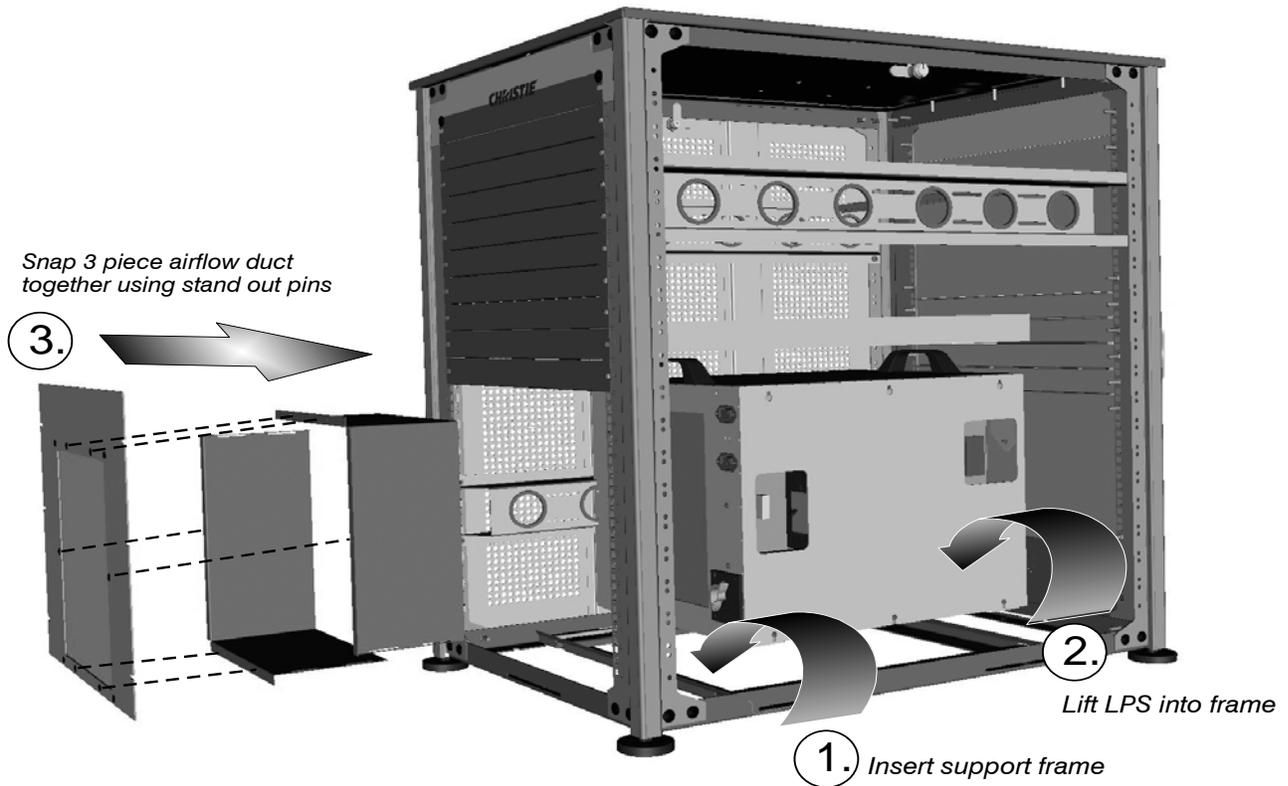

Figure 2-4 Steps to Installing LPS
- f. Assemble the three piece airflow duct (supplied with LPS). See **Figure 2-4**. First snap the 2 “L” shaped parts together, and then snap this into the 6 stand out pins of the third piece (flat panel).
- h. Insert the airflow duct into the rack stand from the outside. See **Figure 2-4**.